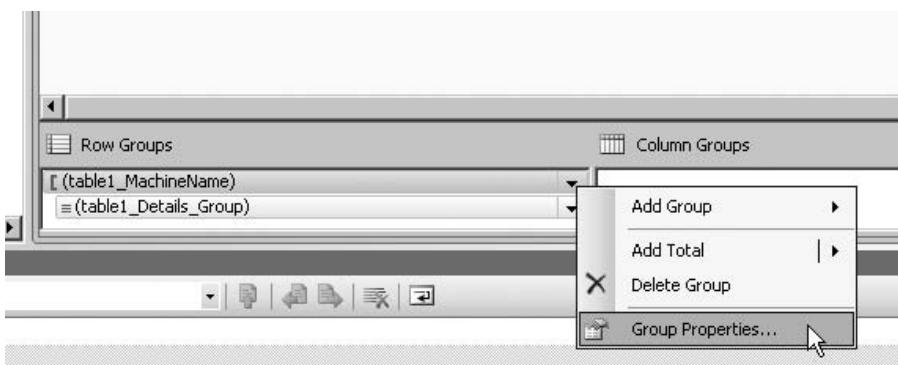

Figure 16-20 The Row Groups menu
55. In the Row Groups area at the bottom of the screen, click the drop-down arrow. You will see a menu, as shown in Figure 16-20.